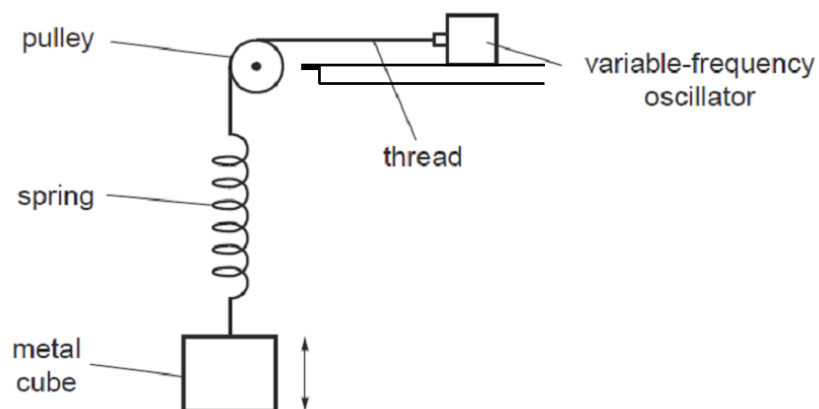

Fig. 4.1
- 4 A student sets up the apparatus illustrated in Fig. 4.1 in order to investigate the oscillations of a 100 g metal cube suspended on a string.